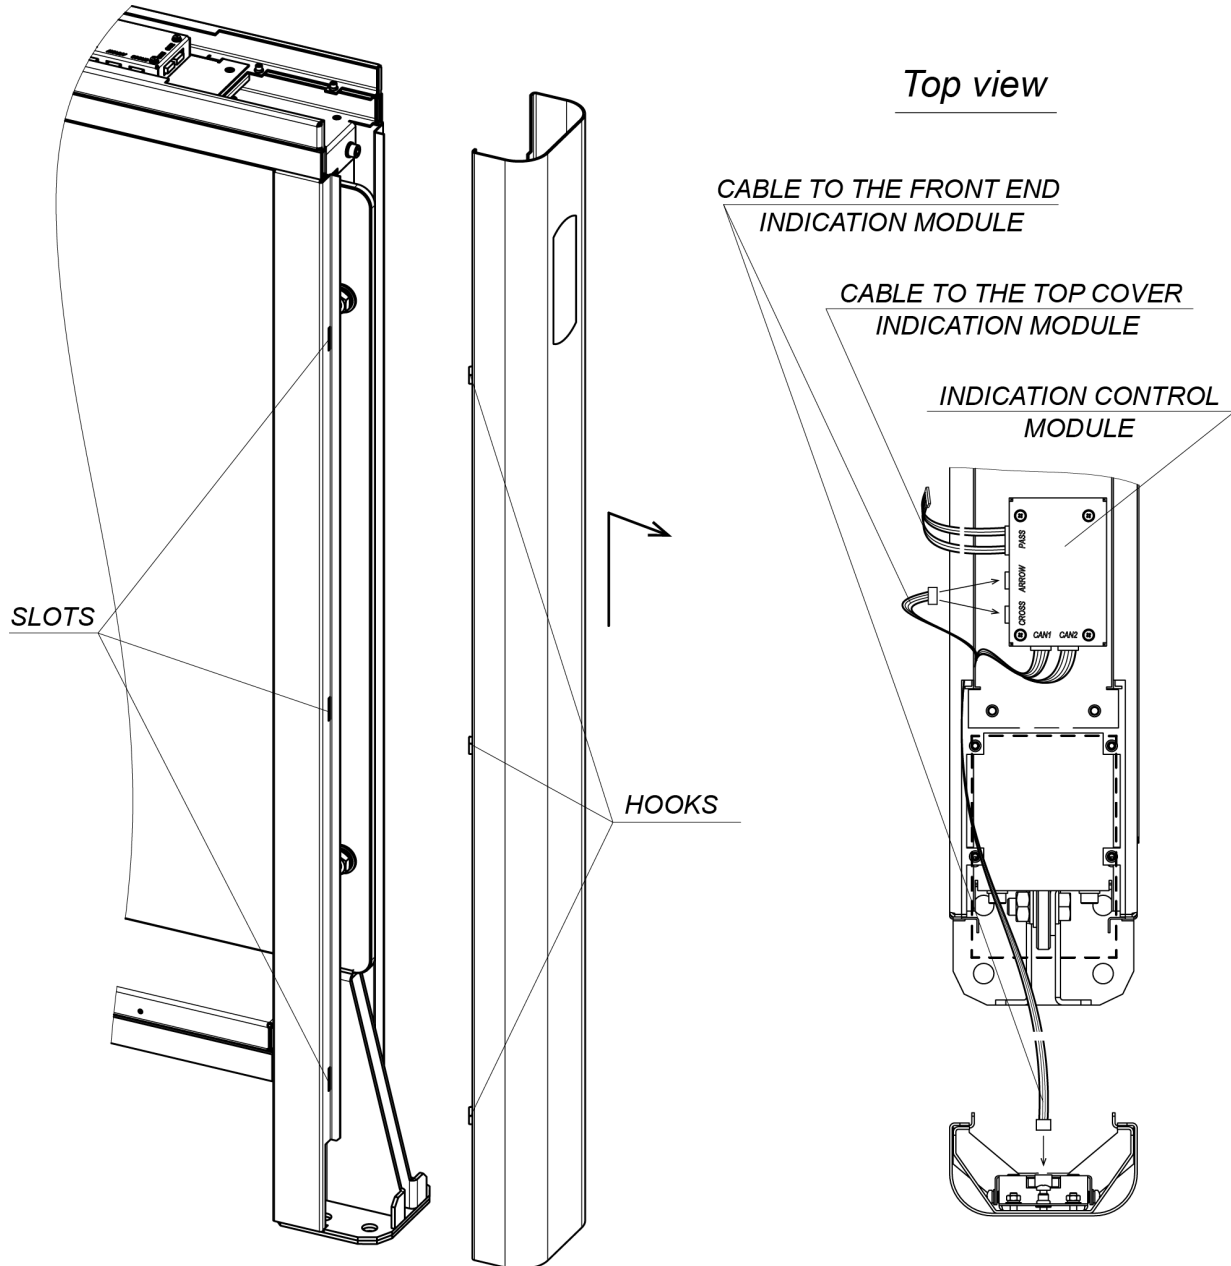

Figure 22. Side post front panel disassembly
21. If needed, access card reader can be installed in the special openings inside the top duct of the side posts (see Fig. 22) or the reader is to be stuck to the top cover underneath the indication block. Use the double-sided tape to fix readers and, if needed, non-metal pads for the reader to be placed as close to the top cover as possible in order to increase the read range. Carefully route reader cables through the top duct into the central post where the ACS-controller cable is to be led through the default holes. Cables should not be routed between or near the holes used for fastening the section top cover. This will prevent the cables from damage. Use self-adhesive cable tie mounts for cable fastening. It is prohibited to fix cables to the internal wiring cables and to the control boards of the intrusion detectors. It is also prohibited to route cables near the control boards where the detectors are located.
24. Mount front panels (8) (Sect. 8.9.2). After installation make sure that the top edges of the panels are flush with the section housing. Front-end indication block panel should be installed where indication control module is located. This module is fixed to one of the two steel protection plates in the top duct (see Fig. 22). However, the front-end indication block is to be connected to the indication control module with a connection cable. The connection cable connected to the **ARROW** connector of the indication control module will activate the white arrow on the front-end indication blocks. The cable connected to the **CROSS** connector will activate the red cross (Sect. 5.2.2, 8.9.2, Fig. 22).
Remove the side post front panel (8), moving it up along the post and then pull it, bringing the hooks from slots in the side post (Fig. 22). Be careful not to damage the connection cable! Disconnect the connection cable output from the front-end indication block.
Prior to installation of the section top cover (10), check whether all cables have been properly connected to the indication control module (see Fig. 22, Sect. 8.9.2).
- Connect the connection cable from the indication control module (“PASS” connector, Fig. 22) to the top cover indication block (for **STC-01G, SDC-01G**).
- Take one glass piece of the top cover featuring an indication block and connect the connection cable of the indication control module (“PASS” connector, Fig. 22) to the top cover indication block.